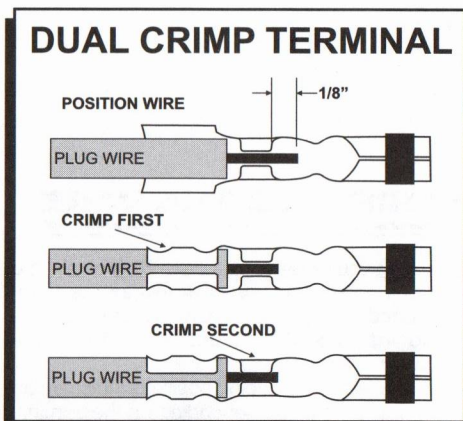

Figure 5 Crimping a Dual Crimp Terminal.
1. After stripping the sleeve, position the wire in the terminal so the insulation protrudes about 1/8" beyond the insulation crimp tabs and the conductor extends about 1/8" past the conductor crimp tabs (Figure 5).